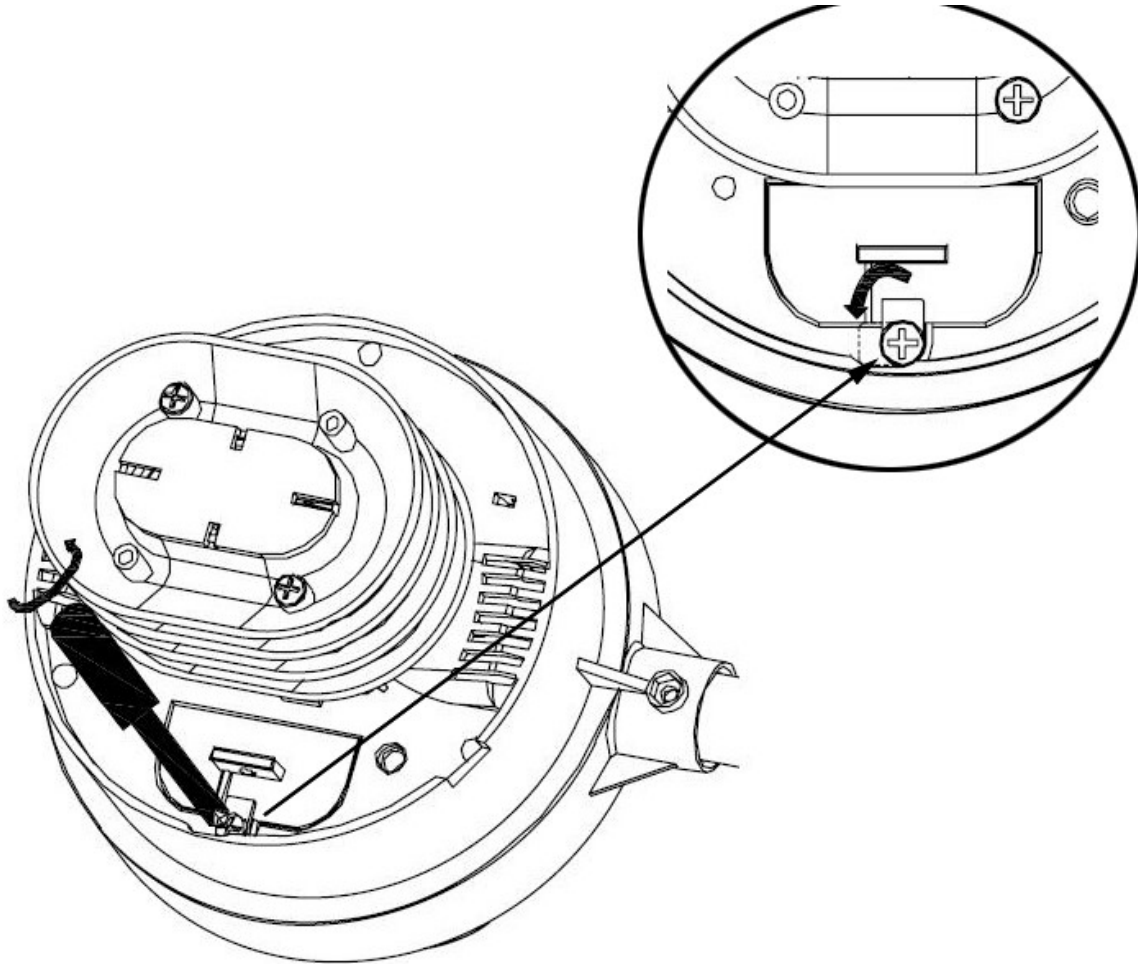

Figure 2
1. **Insert batteries into the sensor array.** Locate the battery door on the sensor array, as shown in Figure 2. Turn the set screw counter clockwise to loosen the screw, and rotate the sheet metal bracket to open the battery compartment.